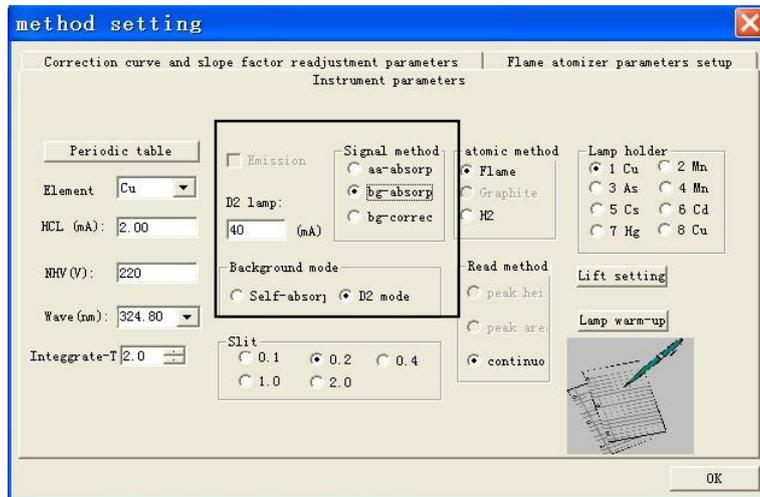

Figure 4-22
- 1) If "Deuterium lamp" is selected for the background mode, just enter the current value in the field. The range of current is 12 – 110mA, as shown in Figure 4-22.